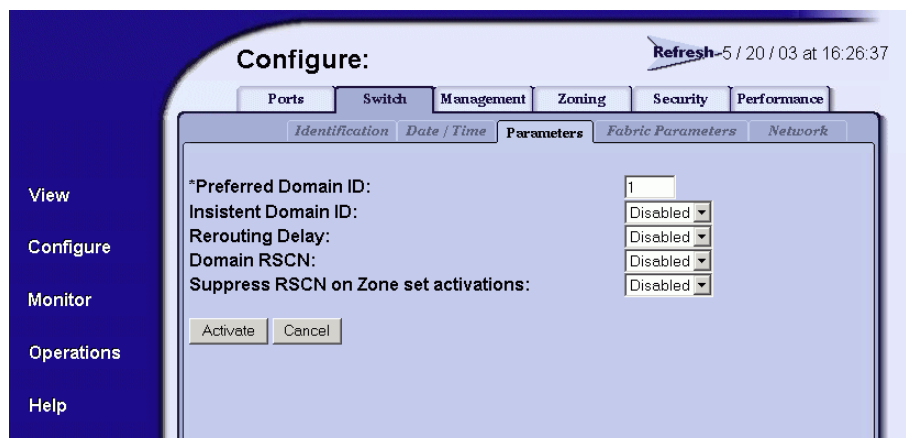

Figure 7: Configure product Parameters tab view
3. Click the **Switch** or **Director** tab, as appropriate. Click the **Parameters** tab to display the **Parameters** tab view (Figure 7).